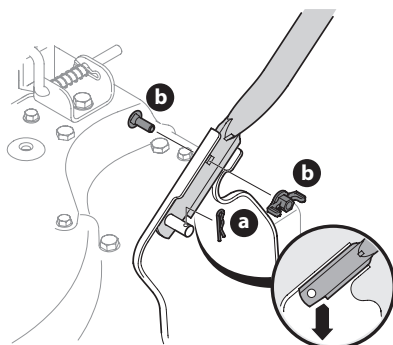

Figure 1
- a. Place the bottom holes in lower handle over the pins on the handle brackets with notch in handle pointing downwards and secure with hairpin clips. See Figure 1.
- b. Insert carriage screws through upper hole in lower handle from the inside and secure with wing nuts. See Figure 1.